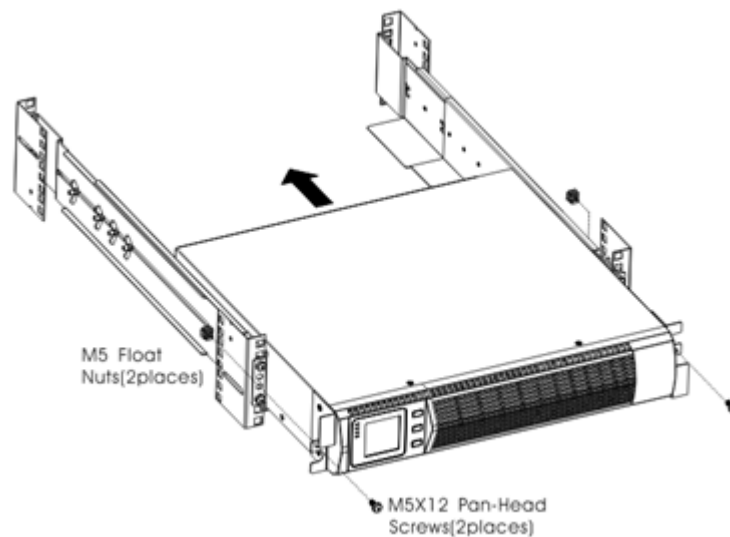

Figure6 Securing the Front of the Cabinet
8. Align the mounting brackets with the screw holes on each side of the UPS and fix with the supplied M4×8 flat-head screws(see Figure 6)